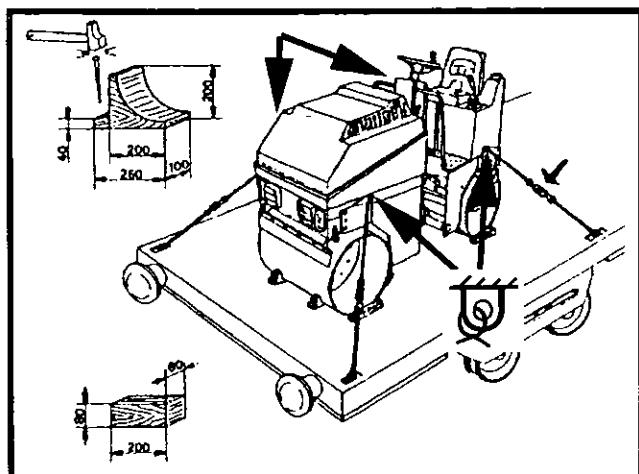

Figure 4-25 Tie Down Points
4. Attach tie down chains or other appropriate equipment to tie down points marked with symbol , refer Figure 4-25.